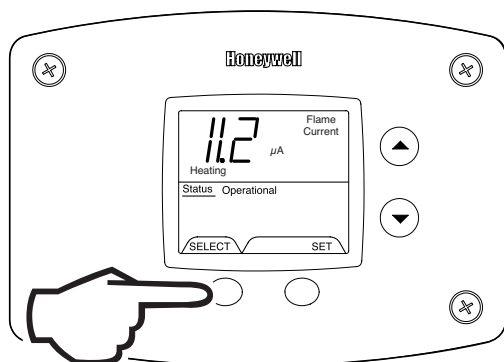

Fig. 59
3. Press the 'Select' button until a number value is displayed with 'Flame Current' to the right of the number. The value displayed is in microamps ( $\mu A$ ). (Fig. 59)